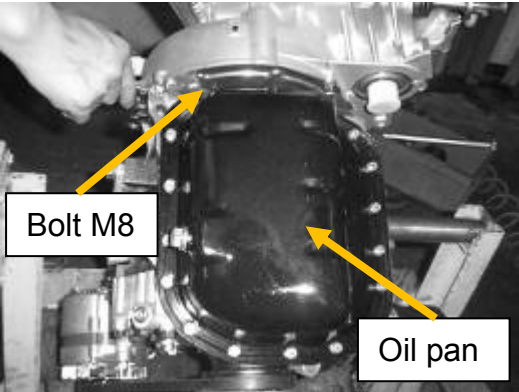
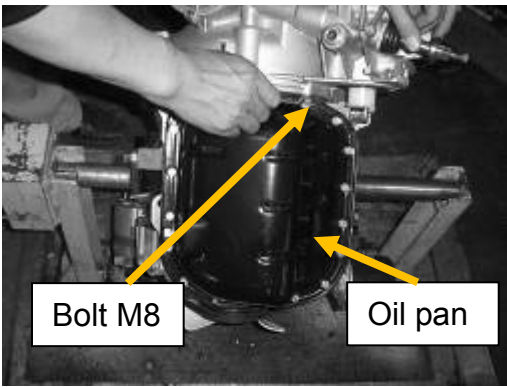

Figure 34
Figure 33
1. Remove two bolts(M8) on the lower mud plate of transmission (See Figure 33,Figure 34)